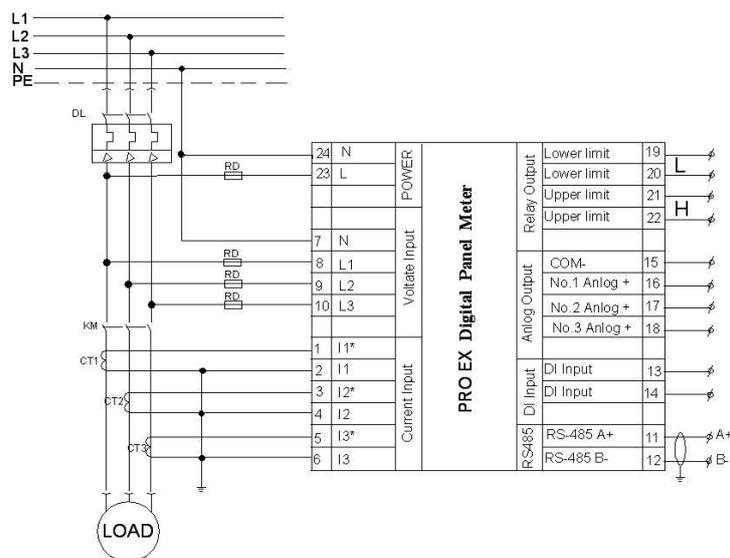

Fig.6 PRO EX P53/Q53/S52 3P4W
1.4.12.5 Analog Output Setting (Details of output ports, please see Fig. 6)
1.4.13.5 Analog Output Setting (Details of output ports, please see Fig. 6)
The wiring diagram of PRO EX Q53 is as shown in Fig. 6.
1.4.14.5 Analog Output Setting (Details of output ports, please see Fig. 6)